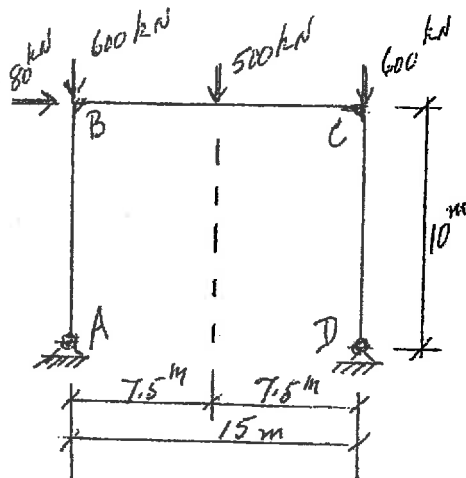

FIGURE 2
2. The rigid frame in Figure 2 is to be designed in reinforced concrete. Using the Limit States Design method:
3. Using the Limit States Design method, design a rectangular cross-section for the reinforced concrete column AB in Figure 2, carrying out the required strength and stability checks. Also estimate the size of the concrete footing at A, assuming a value for the soil bearing capacity.
5. The rigid frame in Figure 2 is to be designed in steel using the Plastic Method of Design. All members have the same plastic moment capacity.
6. Design a steel section for the beam-column AB in Figure 2 (Question 5) satisfying the required strength and stability conditions.